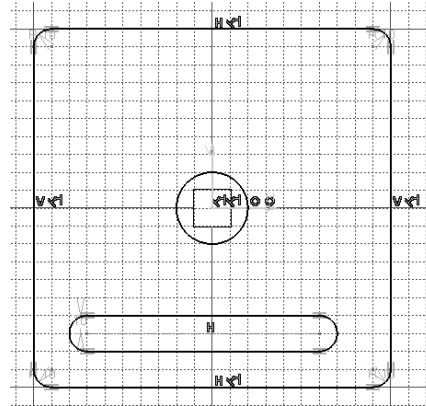

Figure 3-47 The sketch after drawing the elongated hole
6. Move the cursor vertically upward and specify a point on the elongated hole at the location where the radius value is displayed as **10** in the **Radius** edit box. Figure 3-47 shows the sketch after drawing the elongated hole.